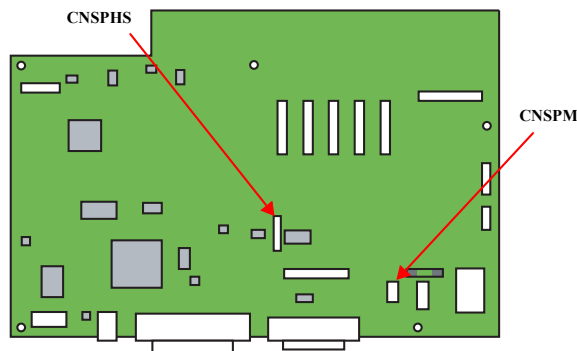

Figure 4-31. SP MOTOR ASY connectors on the ROM BOARD
3. Disconnect the SP MOTOR ASY cable from the connectors on the ROM BOARD (CNSPM: 3 pins, CNSPHS: 7 pins). See Figure 4-31.